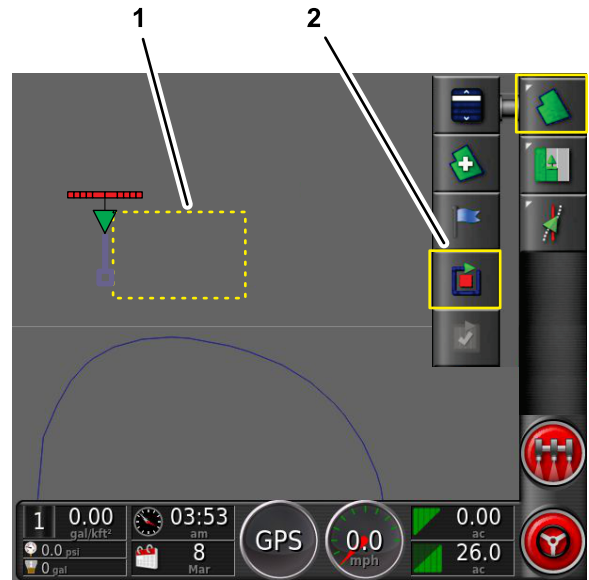

Figure 46
1. Align the outside, center part of the left front tire at the first point of the straight sided field boundary, and stop the machine (Figure 46).